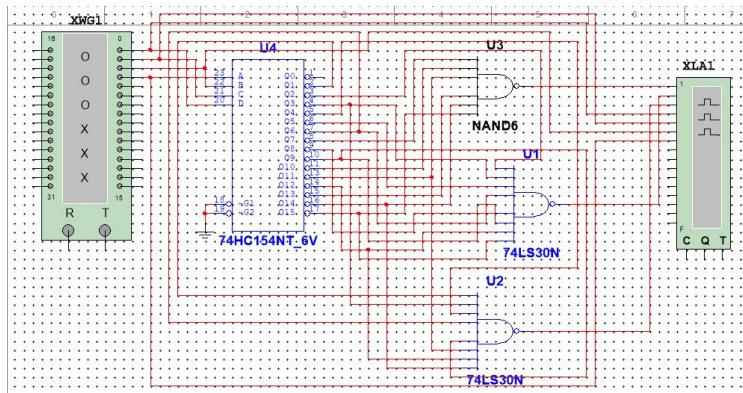

Figure 9 The Designed Circuit Diagram for the 2-bit+2-bit Adder
Step 3: Design the logic symbol level circuit diagram. The designed circuit diagram is shown in Figure 9.